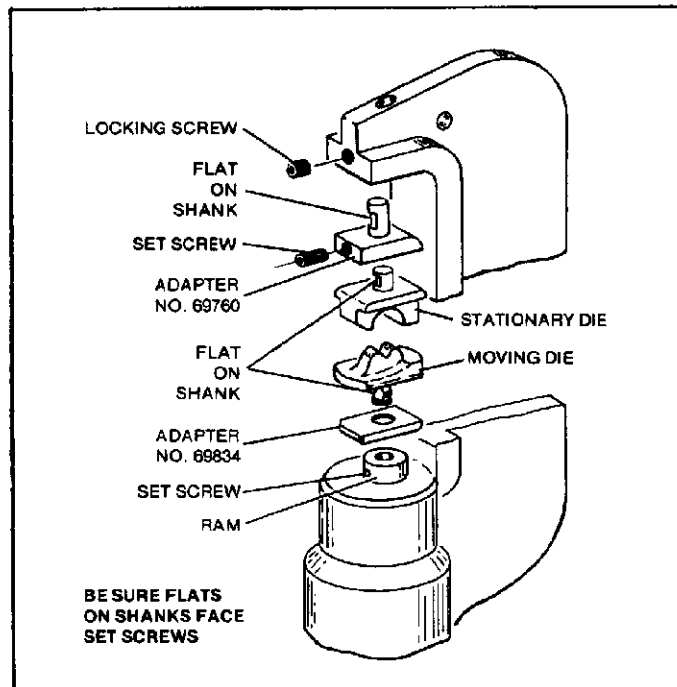

Figure 1
- Loosen locking screw in top section of crimping head. See Figure 1.
- Loosen ram set screw and insert shank of moving die through hole in adapter No. 69834 and into ram well. Tighten set screw. See Figure 1. Be sure radius on adapter is "down" and facing rear of head.
Strip wire to dimension indicated in Figure 1. **NOTE: Do not nick or cut conductor strands.**